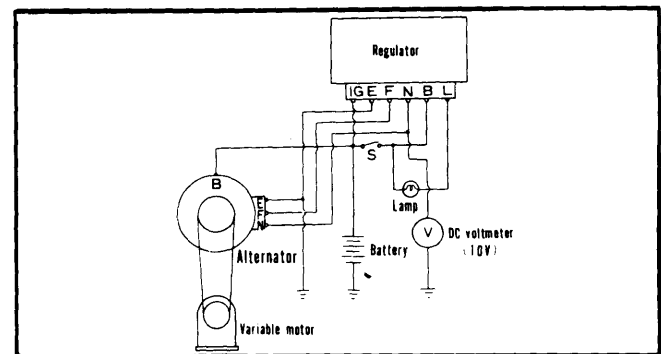

Fig. 3 Test Circuit for Relay-Warning Lamp Type
**Charge Warning Lamp Type** — Connect test meters as shown in Fig. 3 thru 6. Increase alternator RPM gradually and note voltage when charge lamp goes out. Cut-in voltage should be 4.0-5.8 volts. If voltage is not as specified, bend voltage relay adjusting arm to obtain correct setting.